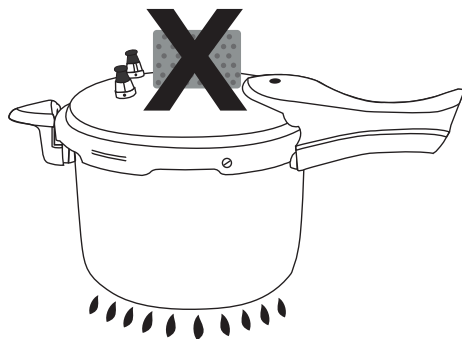

Figure No. 1
26. **DO NOT** cover the pressure control valve. (See Figure No. 1)